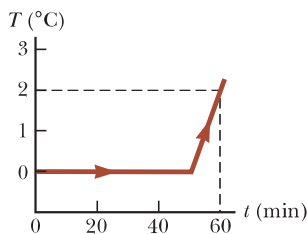

Figure P20.79
**79.** A cooking vessel on a slow burner contains 10.0 kg of water and an unknown mass of ice in equilibrium at 0°C at time  $t = 0$ . The temperature of the mixture is measured at various times, and the result is plotted in Figure P20.79. During the first 50.0 min, the mixture remains at 0°C. From 50.0 min to 60.0 min, the temperature increases to 2.00°C. Ignoring the heat capacity of the vessel, determine the initial mass of the ice.